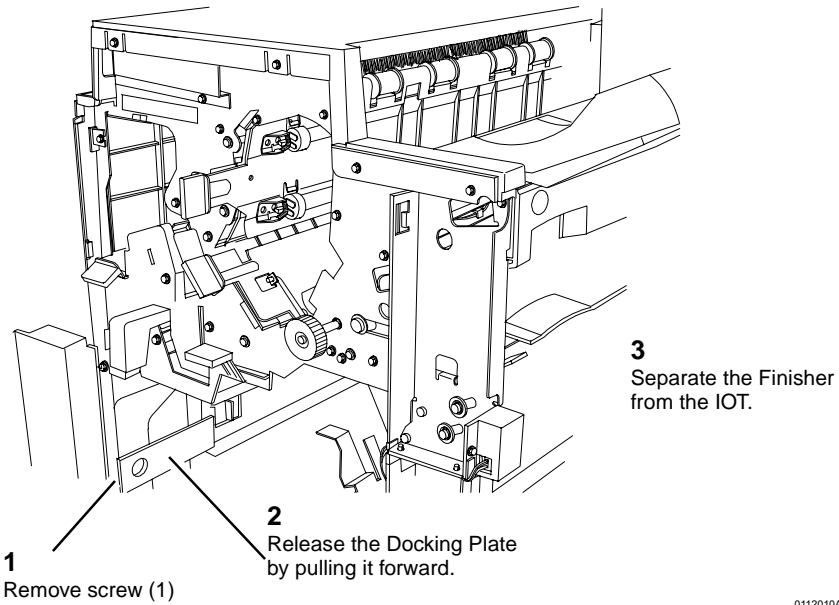

Figure 2 Separating the Finisher from the IOT
4. Separate the Finisher from the IOT (Figure 2).